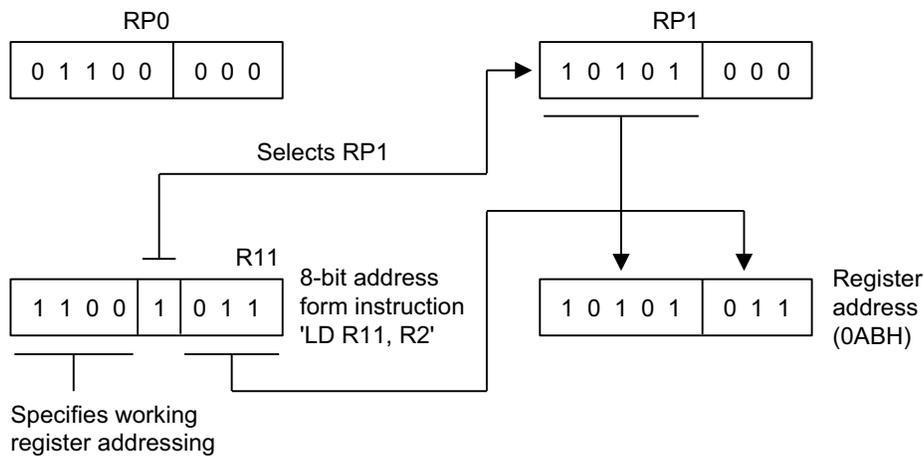

Figure 29. 8-Bit Working Register Addressing Example
Figure 29 shows an example of 8-bit working register addressing. The four high-order bits of the instruction address (1100b) specify 8-bit working register addressing. Bit 4 (1) selects RP1, and the five high-order bits in RP1 (10101b) become the five high-order bits of the register address. The three low-order bits of the register address (011) are provided by the three low-order bits of the 8-bit instruction address. The five-address bits from RP1